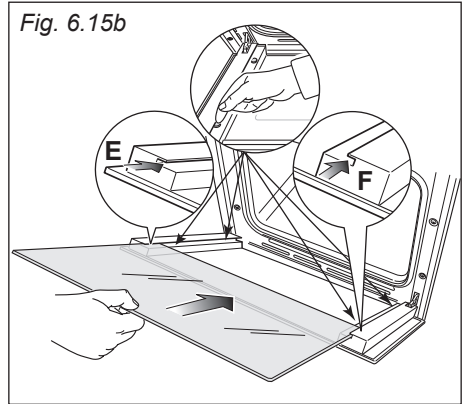
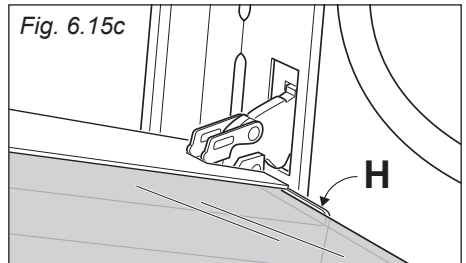

Fig. 6.15b
Fig. 6.15c
- IMPORTANT:** It is advisable, while refitting the glass, to keep pressed in position the four rubber pads “D”, by a finger, to avoid breakage or slippage of the rubber pads themselves (fig. 6.15b).
- Insert the pane in the left “E” and right “F” slide guides (fig. 6.15b), and gently slide it to the retainers “H” (fig. 6.15c).